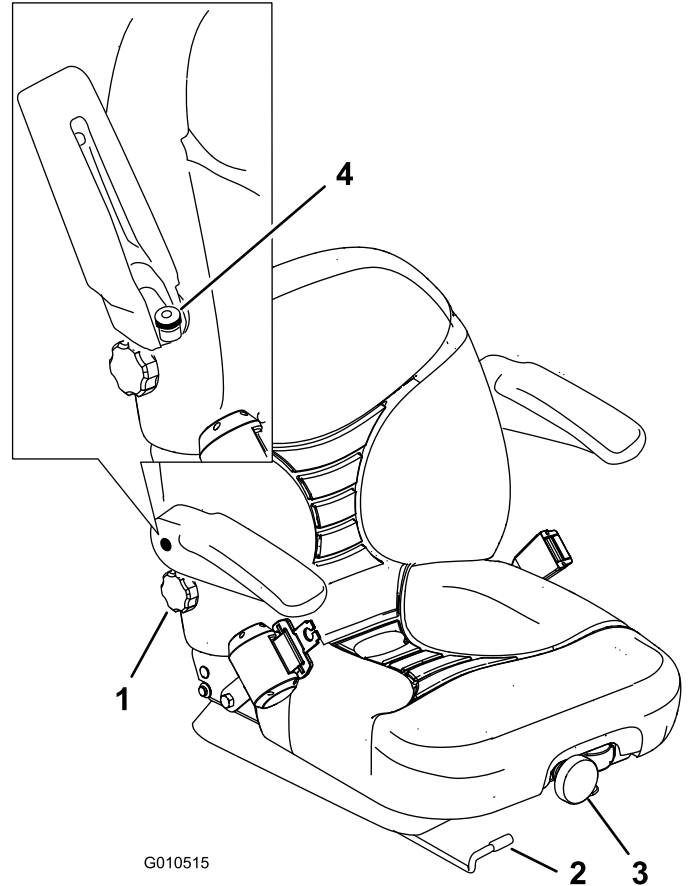

Figure 36
1. To adjust, move the lever sideways to unlock seat (Figure 36).
To adjust it, turn the knob in front either direction to provide the best comfort (Figure 36).
To adjust it, lift the armrests and turn the knob in either direction to provide the best comfort (Figure 36).
To adjust it, turn the knob, under the right-side arm rest, in either direction to provide the best comfort (Figure 36).